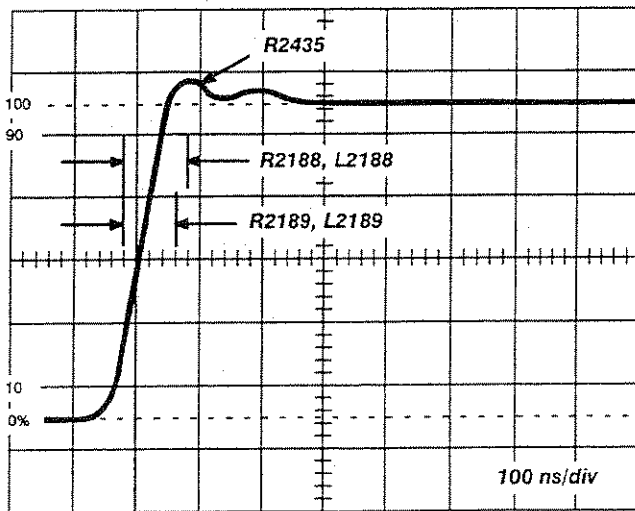

Figure 5-4: Portions of waveform affected by high-frequency adjustments.
- x. Adjust R2188 (R2881), L2188 (L2881), R2189 (R2889), L2189 (L2889), R2345 (R2935), and R2435 (R2935) for the best front-corner response. Adjust R2272 (R2975) for minimum oscillation (ringing). Refer to figure 5-4 for identification of the waveform affected by each adjustment.